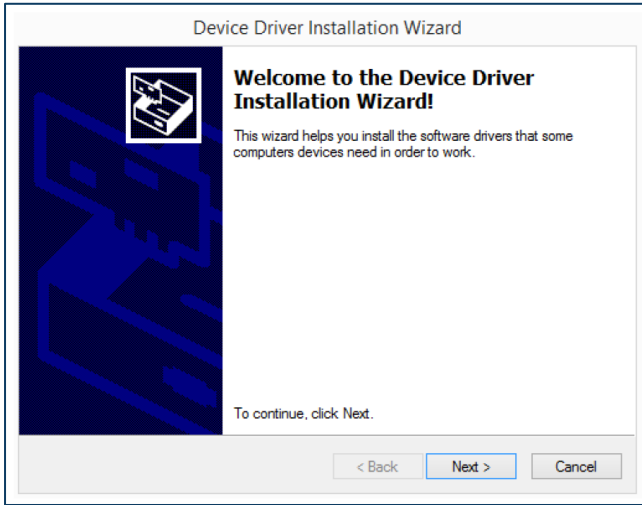

Fig. 5 – Device driver installation wizard
- Follow the installation wizard shown in Figures 5 and 6. Click **Next** for each window.